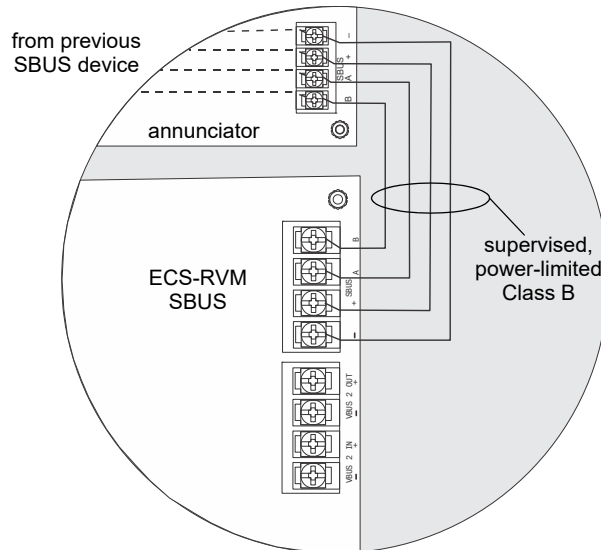

Figure 4.72 SBUS wiring for ECS-RVM
2. Connect the SBUS to the annunciator and ECS-RVM. See Figure 4.72.
- Disconnect the SBUS connections from the SBUS terminals on the ECS-RVM. Refer to Figure 4.72.